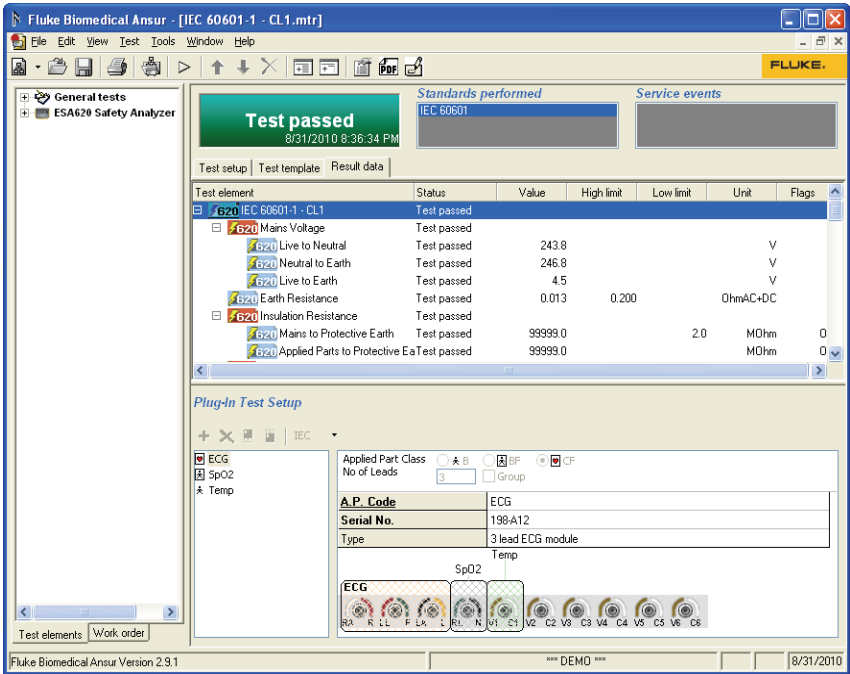

Figure 3-13. ESA620 Test Record
- Click the **Next** button (→) to create a Test Record. Figure 3-13 is a sample of an ESA620 Test Record.